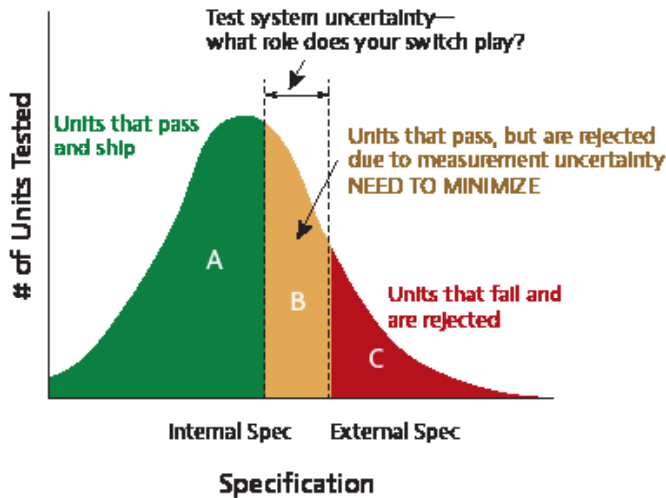

Figure 1. Measurement impact
To account for test uncertainties, the user must tighten the internal specification to ensure devices do not falsely pass. The necessary outcome is that a percentage of units are rejected, which could have been shipped to generate revenue. Test yield is defined as the percentage of devices that pass the internal specification relative to number of units that pass the external specification. These units are represented in zone B in Figure 1. The switch insertion loss (IL), polarization-dependent loss (PDL), repeatability, and stability all contribute to additional uncertainties in automated test systems. Selecting the mOSW-C1/mISW-C1 will minimize the switch impact on test yield, in many cases to unmeasurable levels.